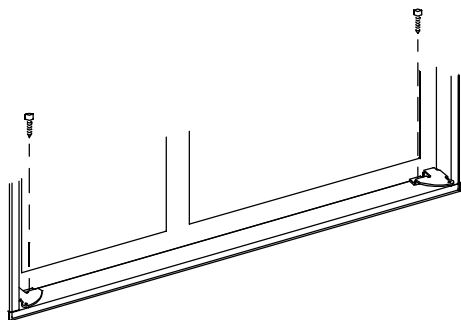

FIG. 6
2. Secure the refrigerator and the lower front strip with two screws: One screw through each hinge. See FIG. 6.